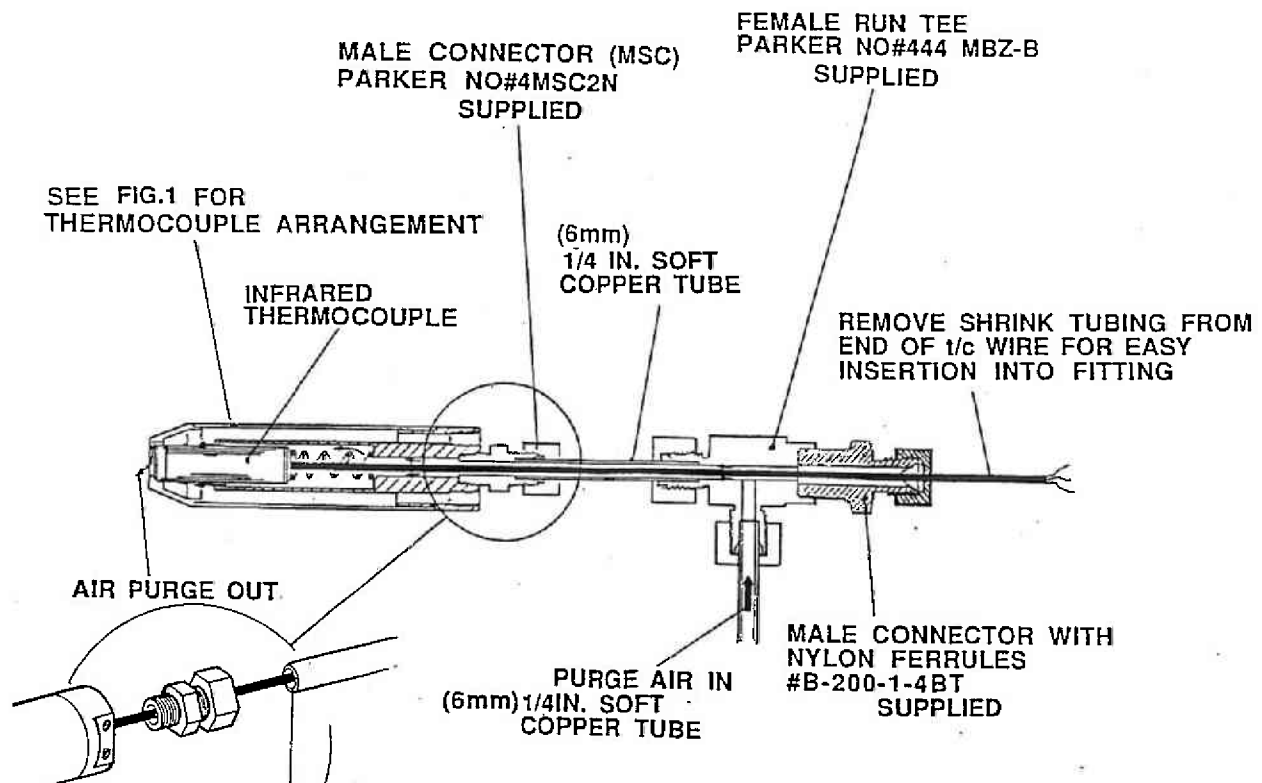

FIG.3
7. **OPTIONAL** To route exhaust air out of your process and/or provide cooling air to the thermocouple cabling, use the Male Connector fitting as shown in Figure 3. Install the appropriate length of copper (or steel) tubing over the cable De-burr the end of the tube. Make certain that there is enough clearance between the thermocouple cable and the inner diameter of the tube for the low airflow required. Check for airflow after tightening the tube into the fitting.
For Air Purge - Install the Male Connector (MSC) fitting as shown in Figure 3. Install the appropriate length of copper (or steel) tubing over the cable. De-burr the end of the tube. Make certain that there is enough clearance between the thermocouple cable and the inner diameter of the tube for the low airflow required. Check for airflow after tightening the fitting.
Install a suitable TEE fitting to split thermocouple cable route and air supply route as shown in Figure 3. Install a suitable sealing fitting to seal the exit point for the thermocouple cable. A suitable part is described in Figure 3
SEE FIG.3 & FIG.5A FOR ADDITIONAL FITTINGS REQ'D